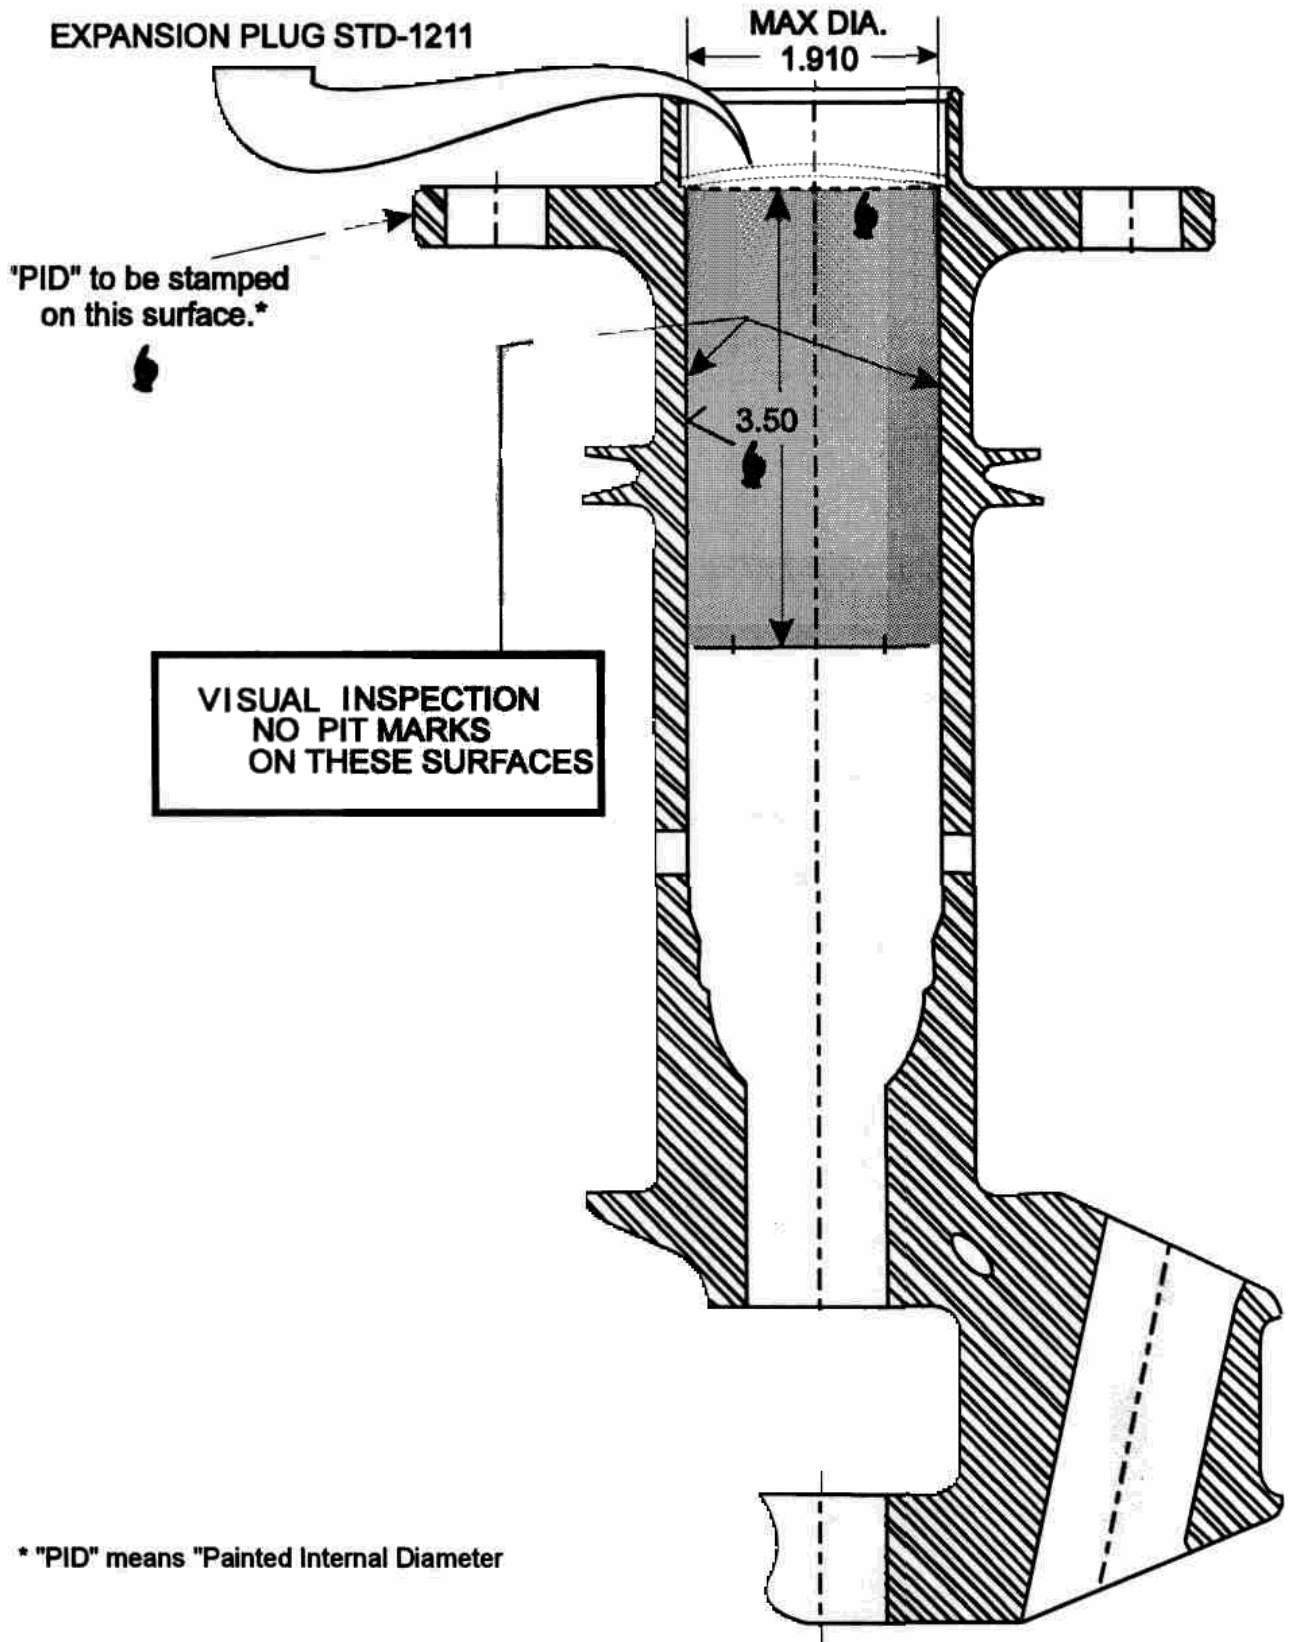

Figure 1. Area to be Inspected
TIME OF COMPLIANCE: **Uncoated Crankshafts (no "PID" stamped on flange OD, see Figure 1)**
- d. Remove surface corrosion using a suitable tool which will follow the existing contour of the I.D. and fine abrasive cloth (see Figure 1). Prior to removing the corrosion, precaution must be taken to ensure that the material removed cannot contaminate the engine.